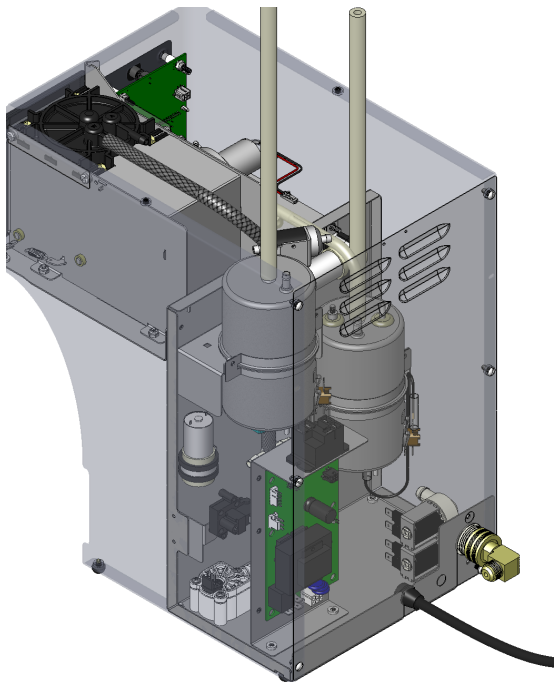

FIG 9-1
3. Disconnect the hose from (top) center hose barb of each tank. Connect a piece of ¼" ID hose (approximately 12" long) in place of the ones you just removed. FIG. 9-1